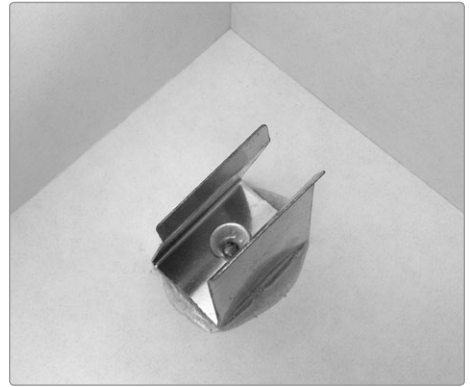

FIGURE 12-20: A 9-volt battery holder clip in a finished project, with and without a battery in place
Step 28 Once you've drilled the enclosure, secure your battery. If the enclosure is too large, the battery is likely to rattle around, causing short circuits or damage to sensitive components. To prevent the battery from busting up the place, I suggest screwing a 9-volt battery holder into the side of the enclosure, as shown in Figure 12-20. (If you have a fairly snug-fitting enclosure, you can often omit the battery holder.)